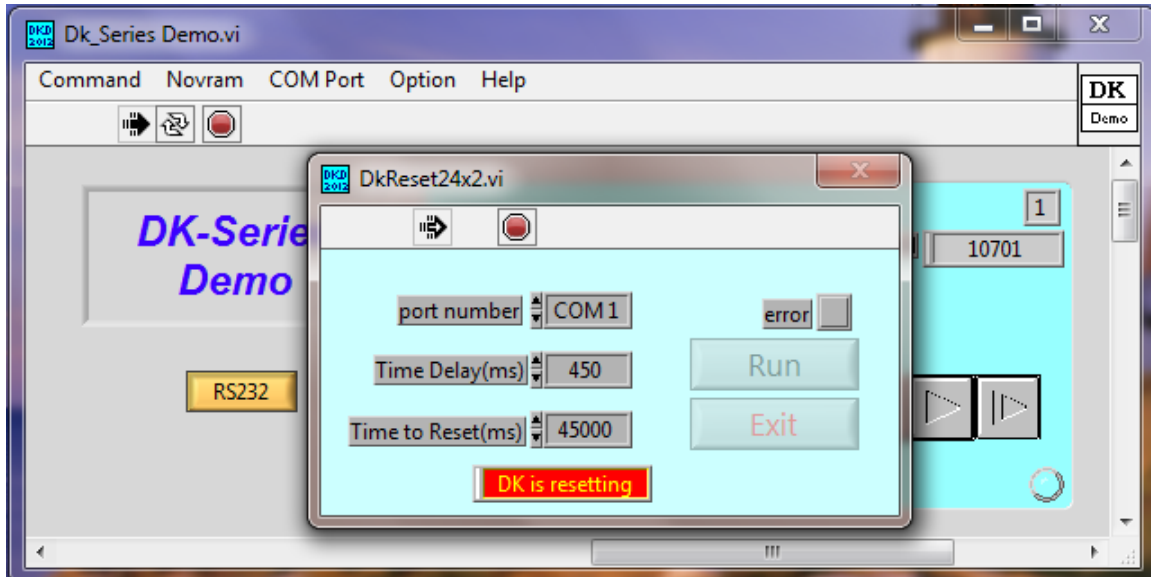

Figure 11. Reset
9.2.7 Reset – This vi performs a grating reset and returns the grating to its home position of 100nm (Fig 11). Press the Run button to execute the reset. A flashing message indicates the DK is resetting and will close when the reset is completed. Press Exit to quit the vi.